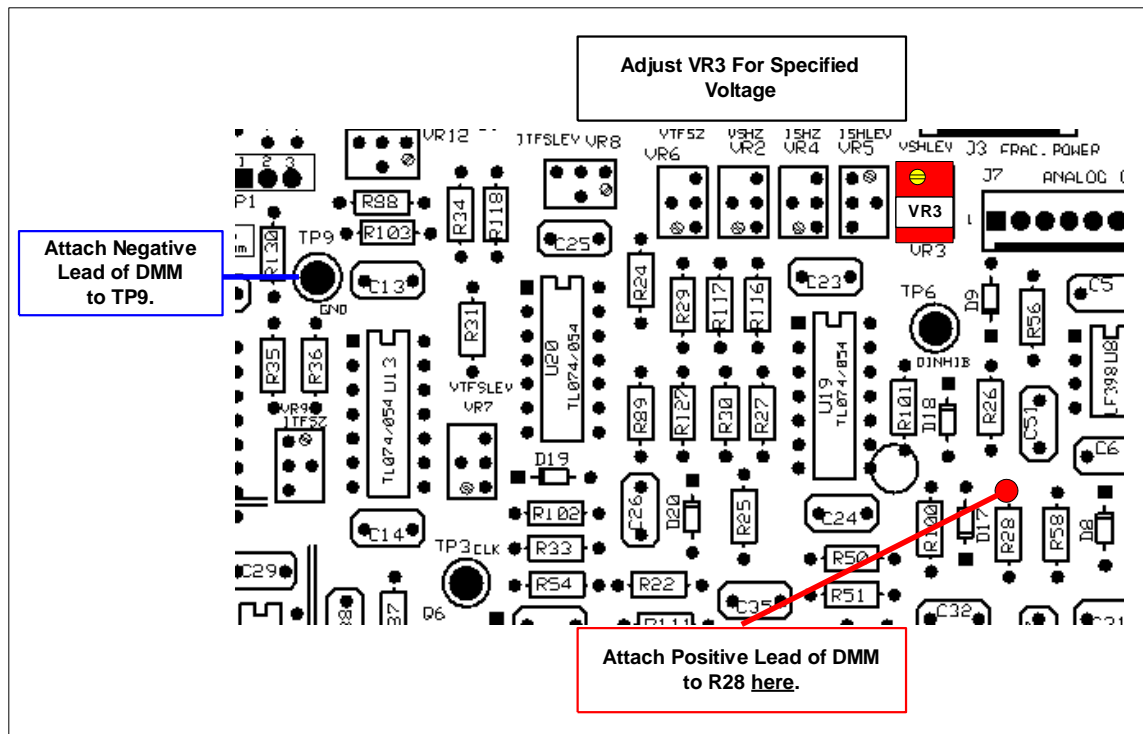

Figure 9-5: Initial Range Voltage Calibration
6. Connect the positive lead of the DMM to the end of R28 indicated in **Figure 9-5** and leave the negative lead of the DMM attached to TP9.
The procedure will involve measuring the exact value produced by the voltage source, and adjusting VR10 until the voltage output at TP1 exactly matches that voltage. **Figure 9-5** can be used to help locate the calibration points referenced in this procedure.